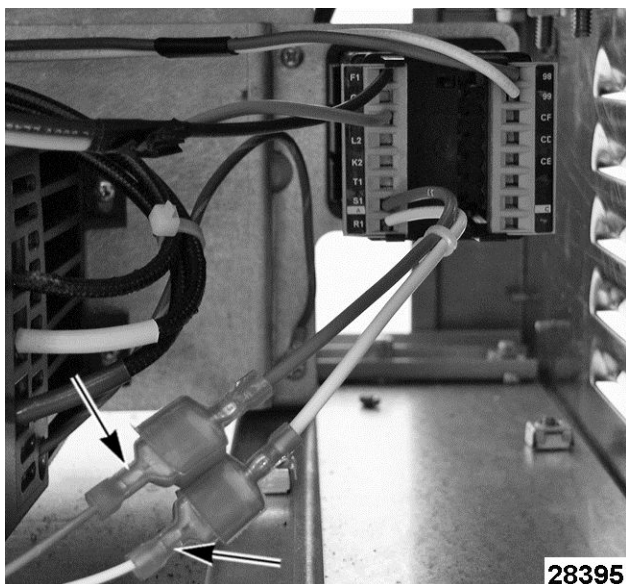

Fig. 47
2. Disconnect sensor probe wires Fig. 47 from PID controller at lead wire connections.